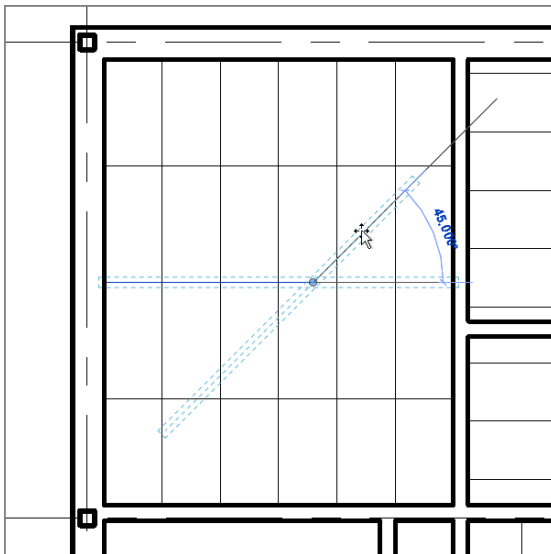

FIGURE 9.7: The rotate process
4. Rotate the grid 45° by using the two-pick method, as shown in Figure 9.7.